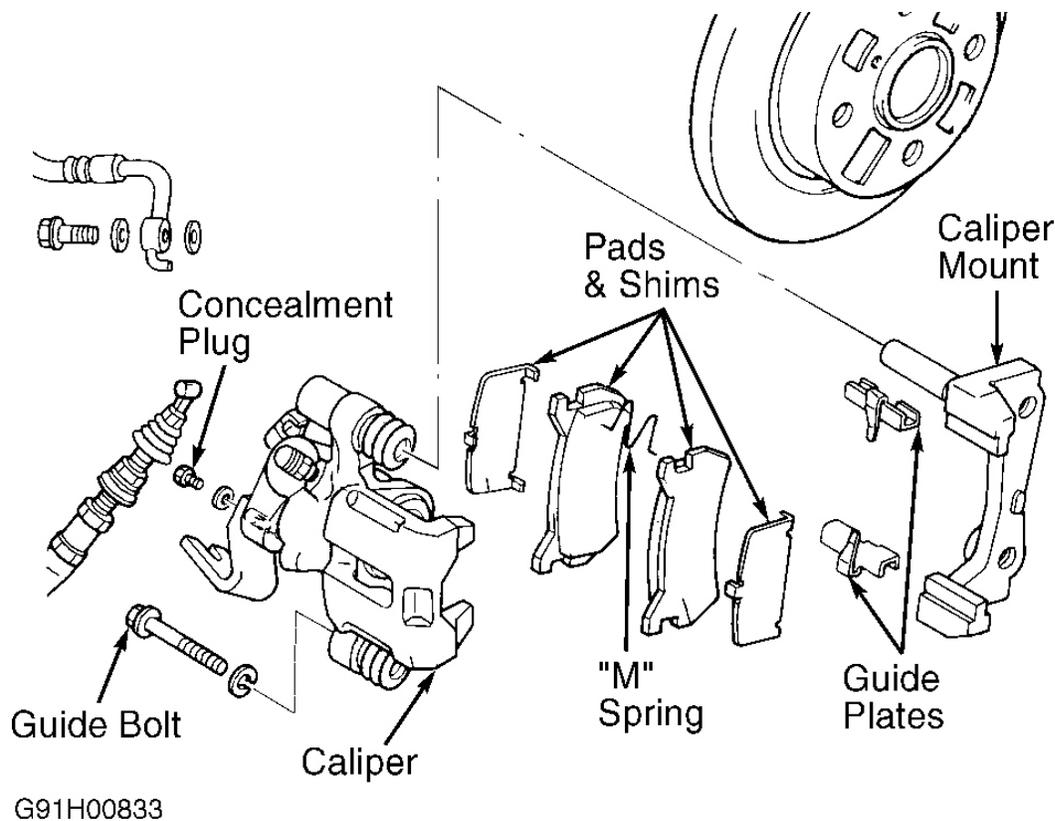

Fig. 15: Rear Disc Brake Assembly (Miata, Protege & 323)
1. Raise and support rear of vehicle. Remove wheel. Remove manual adjustment gear concealment plug from caliper. See **Fig. 15** . Insert an appropriate size Allen wrench through hole and turn manual adjustment gear counterclockwise to retract caliper piston.
2. On Miata, Protege and 323, remove manual adjustment gear concealment plug from caliper. See **Fig. 15**. Insert an appropriate size Allen wrench through hole and turn manual adjustment gear counterclockwise to retract caliper piston.